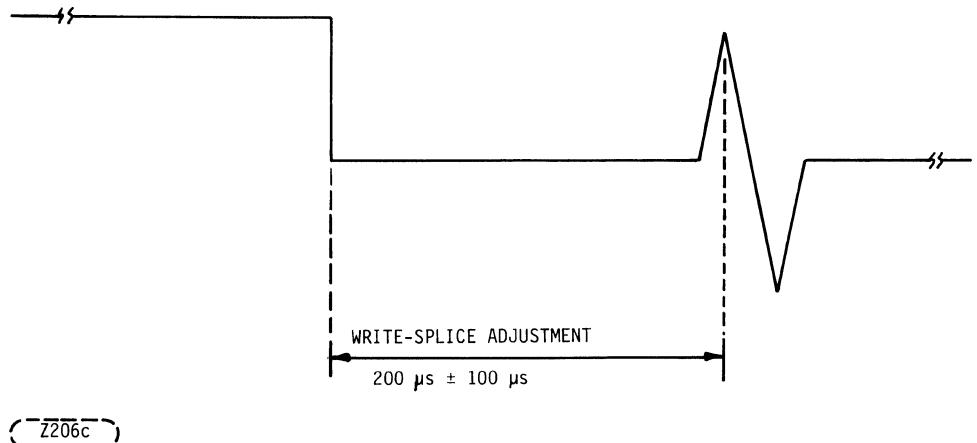
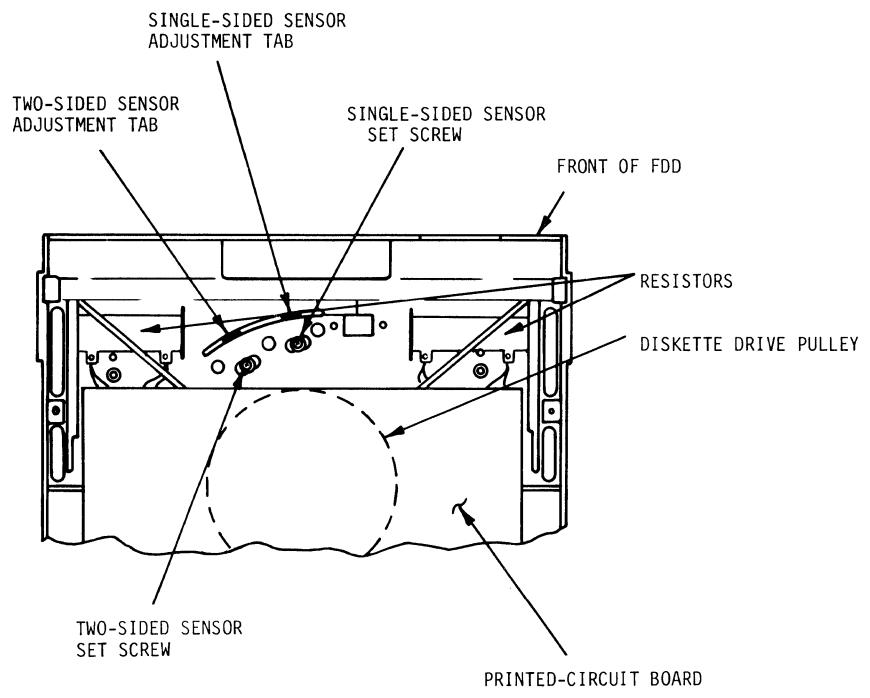

FIGURE 6-5A. WRITE-SPICE-TIMING
FIGURE 6-5B. SINGLE-AND TWO-SIDED SENSOR ADJUSTMENT MEANS
- e. Adjust the time of the write-splice bit until it measures per $200 \mu\text{s} \pm 100 \mu\text{s}$. Refer to Figure 6-5a to adjust the time, loosen the single-sided sensor set screw holding the (single-sided-sensor) phototransistor located on the bottom of the chassis toward the front of the unit, (Figure 6-5b). Using the adjustment tab protruding through the casting, move the phototransistor until the specification is met. Tighten the set screw while observing the scope signal. Verify that the adjustment did not change.